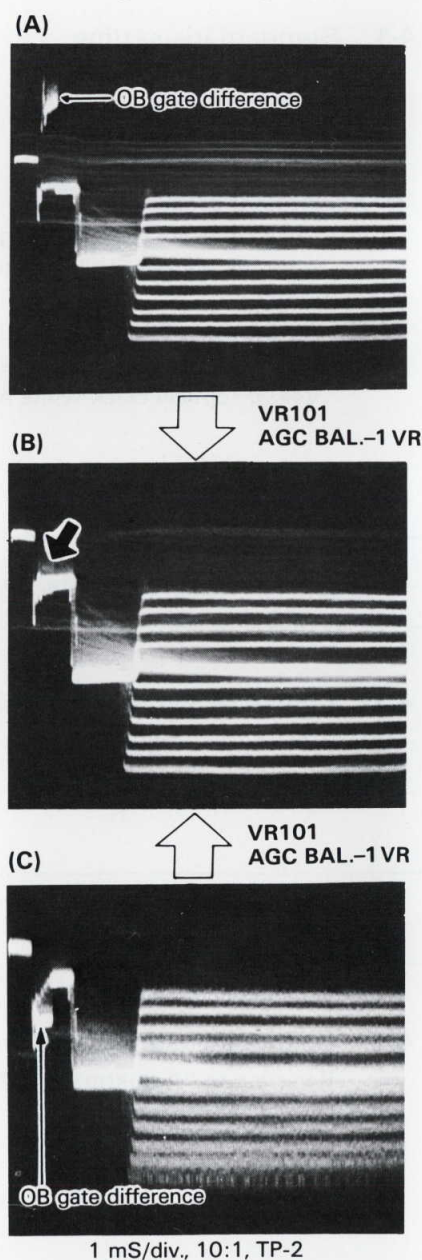

Fig. 4-4-2 AGC BAL.-1 adjustment
- (1) Set as follows:
- (2) Connect **CR jumper** between TP-3 and TP-4.
- (3) As shown in Fig. 4-4-2 (B), align the projected part of the waveform (**OB difference**) with the base line by slowly turning VR101 AGC BAL.-1 VR.